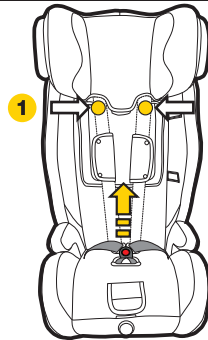

Figure 2
**Step 1:** Slide the cover up and over the plastic apron (refer Figure 2).